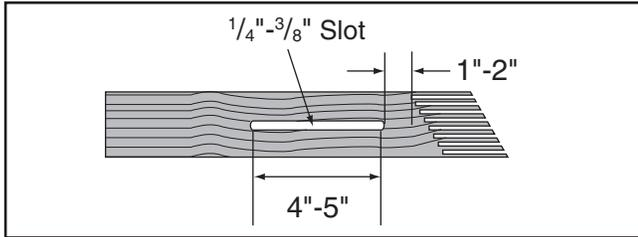

Figure 74. Slot routed in featherboard.
4. Rout a $\frac{1}{4}$ "– $\frac{3}{8}$ " wide slot 4"–5" long in the workpiece and 1"–2" from the short end of the featherboard (see **Figure 74**).